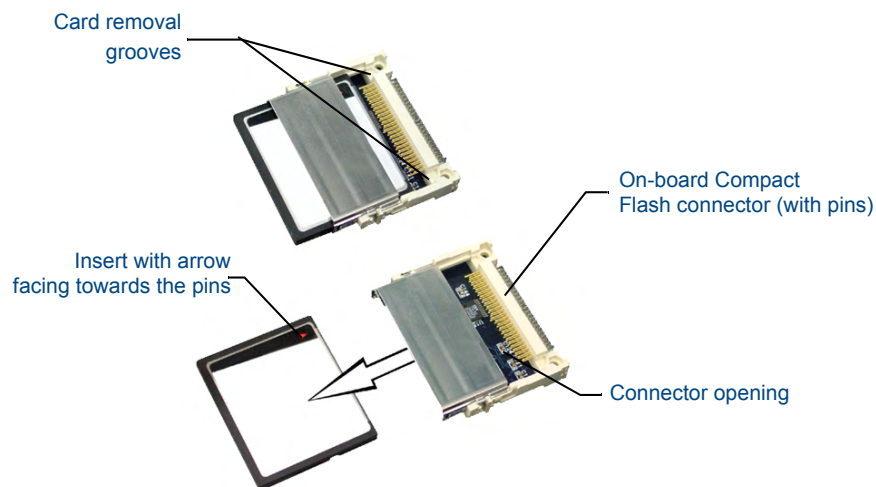

FIG. 7 Removing/installing a Compact Flash Memory card
3. Insert the tip of a grounded flat-head screwdriver into one of the card removal grooves (located on either side of the existing card), and gently pry it out of the slot (FIG. 7). Repeat this process on the opposite card removal groove. *This alternating action causes the card to "wobble" away from the on-board connector pins.*
3. Insert the tip of a grounded flat-head screwdriver into one of the card removal grooves (located on either side of the existing Compact Flash card), and gently pry it out of the slot (FIG. 7). Repeat this process on the opposite card removal groove. *This alternating action causes the pre-existing card to "wobble" away from the on-board connector pins.*
5. Finish the process by firmly gripping the exposed sides of the card and pulling it out (FIG. 7). **USE CARE WHEN HANDLING THE CARD.**
6. Insert the new card firmly into the slot opening connector (FIG. 7) until the contact pins are completely inside the card and securely attached to the pin sockets.